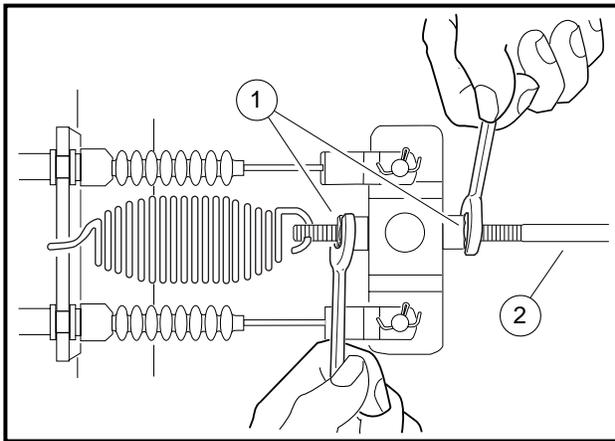

Figure 6-2 Loosen Equalizer Retaining Nuts
2. Loosen the equalizer retaining nuts (1) on the equalizer rod (2) to slightly loosen the brake cable (**Figure 6-2, Page 6-3**).